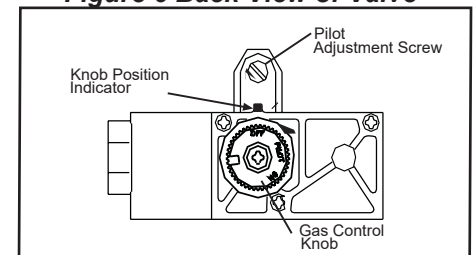

Figure 7 Front View of valve
**IMPORTANT:** Be sure to turn the pilot adjustment screw with a screwdriver two full turns in a counter-clockwise ↶ direction to enable pilot operation (See Figure 7).
**IMPORTANT: Be sure to turn the pilot adjustment screw with a screwdriver two full turns in a counterclockwise  direction to enable pilot operation (See Figure 7 on Page 3).**